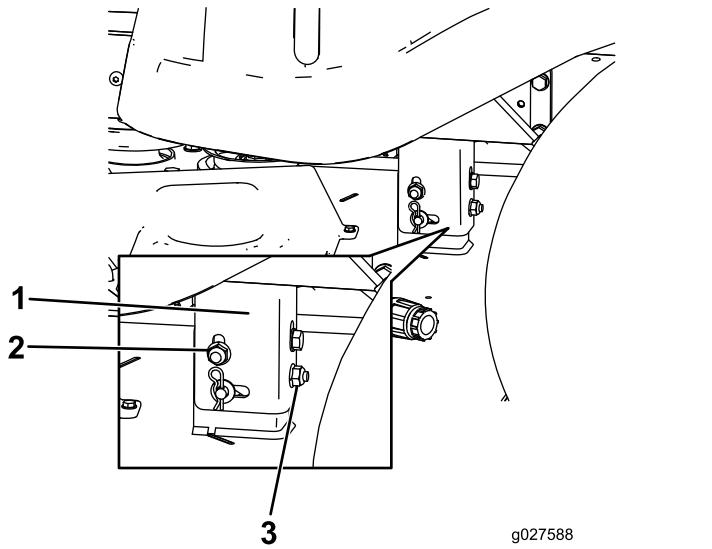

Figure 61
8. Raise or lower the left side of the mower deck by rotating the rear locking nut. (Figure 61).